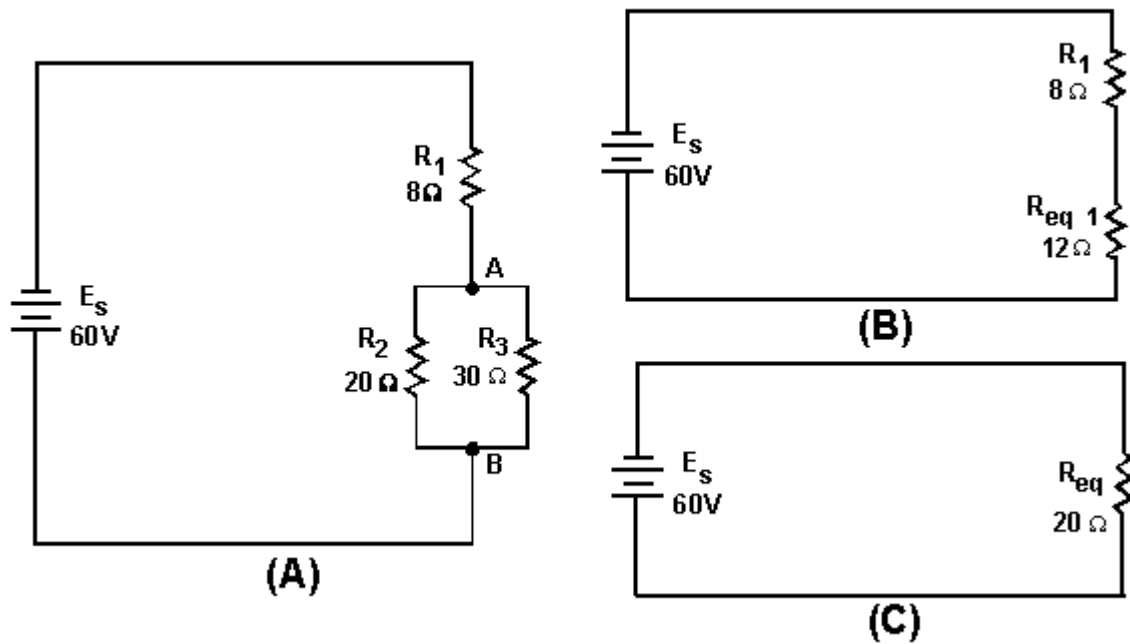

Figure 3-54.—Example combination circuit.
The basic technique used for solving dc combination-circuit problems is the use of equivalent circuits. To simplify a complex circuit to a simple circuit containing only one load, equivalent circuits are substituted (on paper) for the complex circuit they represent. To demonstrate the method used to solve combination circuit problems, the network shown in figure 3-54(A) will be used to calculate various circuit quantities, such as resistance, current, voltage, and power.
Now that the equivalent resistance for  $R_2$  and  $R_3$  has been calculated, the circuit can be redrawn as a series circuit as shown in figure 3-54(B).
The original circuit can be redrawn with a single resistor that represents the equivalent resistance of the entire circuit as shown in figure 3-54(C).
To find the voltage dropped across  $R_1$ ,  $R_2$ , and  $R_3$ , refer to figure 3-54(B).  $R_{eq1}$  represents the parallel network of  $R_2$  and  $R_3$ . Since the voltage across each branch of a parallel circuit is equal, the voltage across  $R_{eq1}$  ( $E_{eq1}$ ) will be equal to the voltage across  $R_2$  ( $E_{R2}$ ) and also equal to the voltage across  $R_3$  ( $E_{R3}$ ).
To find the current through  $R_2$  and  $R_3$ , refer to the original circuit, figure 3-54(A). You know  $E_{R_2}$  and  $E_{R_3}$  from previous calculation.
Having computed all the currents and voltages of figure 3-54, a complete description of the operation of the circuit can be made. The total current of 3 amps leaves the negative terminal of the battery and flows through the 8-ohm resistor ( $R_1$ ). In so doing, a voltage drop of 24 volts occurs across resistor  $R_1$ . At point A, this 3-ampere current divides into two currents. Of the total current, 1.8 amps flows through the 20-ohm resistor. The remaining current of 1.2 amps flows from point A, down through the 30-ohm resistor to point B. This current produces a voltage drop of 36 volts across the 30-ohm resistor. (Notice that the voltage drops across the 20- and 30-ohm resistors are the same.) The two branch currents of 1.8 and 1.2 amps combine at junction B and the total current of 3 amps flows back to the source. The action of the circuit has been completely described with the exception of power consumed, which could be described using the values previously computed.